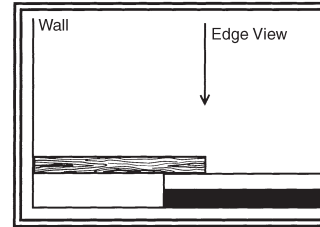

Fig. 35
- Place a loose plank directly over the top of the last full plank, making sure all edges are lined up. Use a whole plank as a measuring device. Position one edge against the wall and mark the loose plank with a pencil along the opposite edge (Fig. 35).